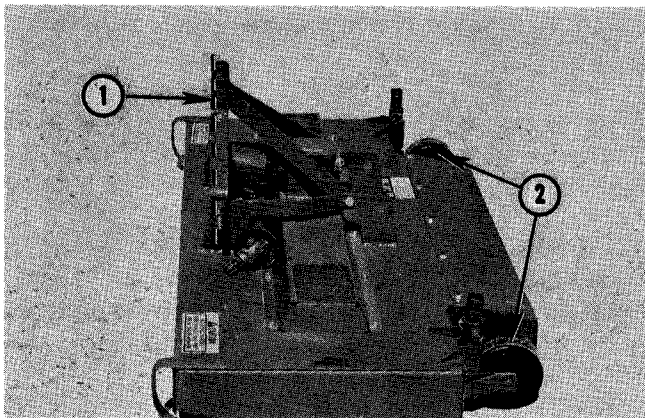

Fig. 53 — Mower Gauge Wheels
1. Place gauge wheels in full up position and board under front edge to level mower front to rear, Fig. 53. This places mower in level position and front part of "A" frame in vertical position as viewed from the side, Fig. 53.